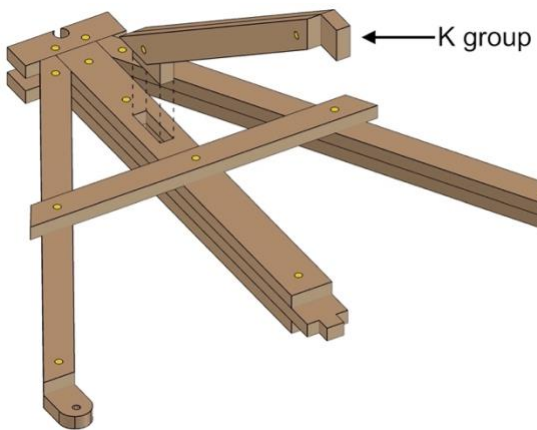

Fig. 52.1
- Align parts exactly as shown in *Fig. 52.1*.